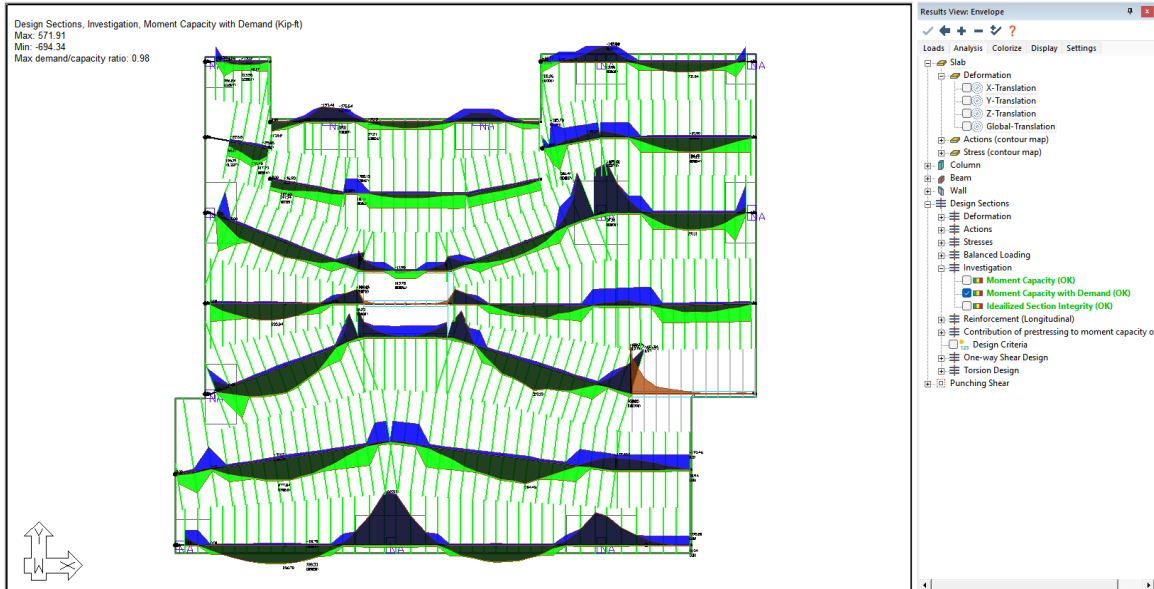

FIGURE 10-25
- Go to *Floor Design* → *Strip Results/Visibility* click on the **Display/Hide Support Lines in the X-direction**  icon to turn on the support lines in the X-direction. The user should now see the Moment Capacity Check along the X-direction support lines as shown in **FIGURE 10-25**.